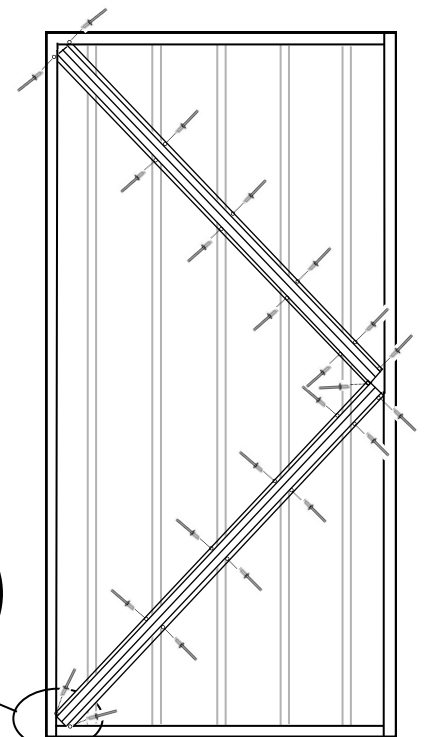

fig.3
- On the back of the door, place door braces in position as shown in fig.3.